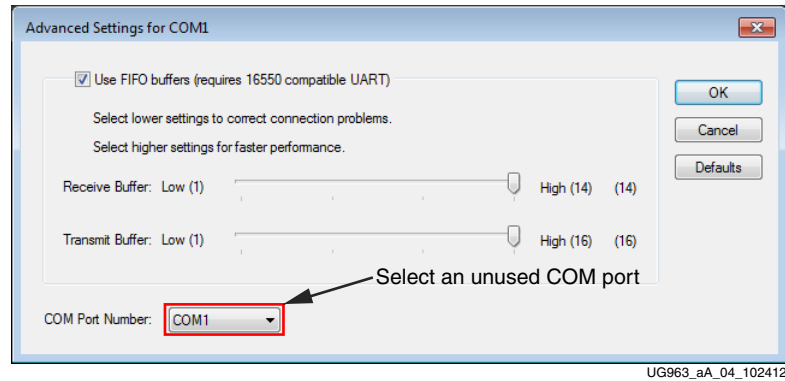
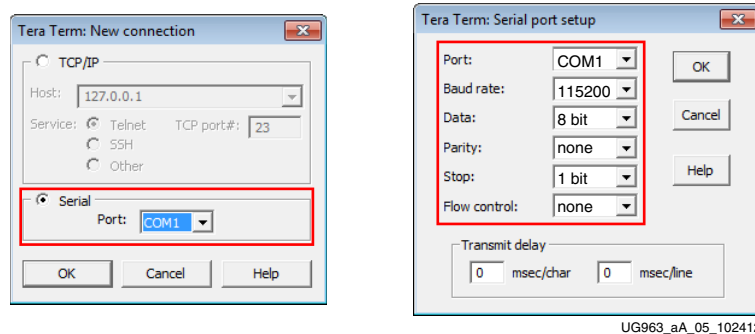

Figure A-4: Advanced Settings
Figure A-5: TeraTerm Pro Settings
6. Select an unused COM Port Number and then click **OK**. Figure A-4 shows **COM1** as the selected COM port number.
To communicate with the ZC706 board, configure the New Connection and Serial Port settings as shown in Figure A-5. These settings must match the host computer COM port settings shown in Figure A-3 and Figure A-4.